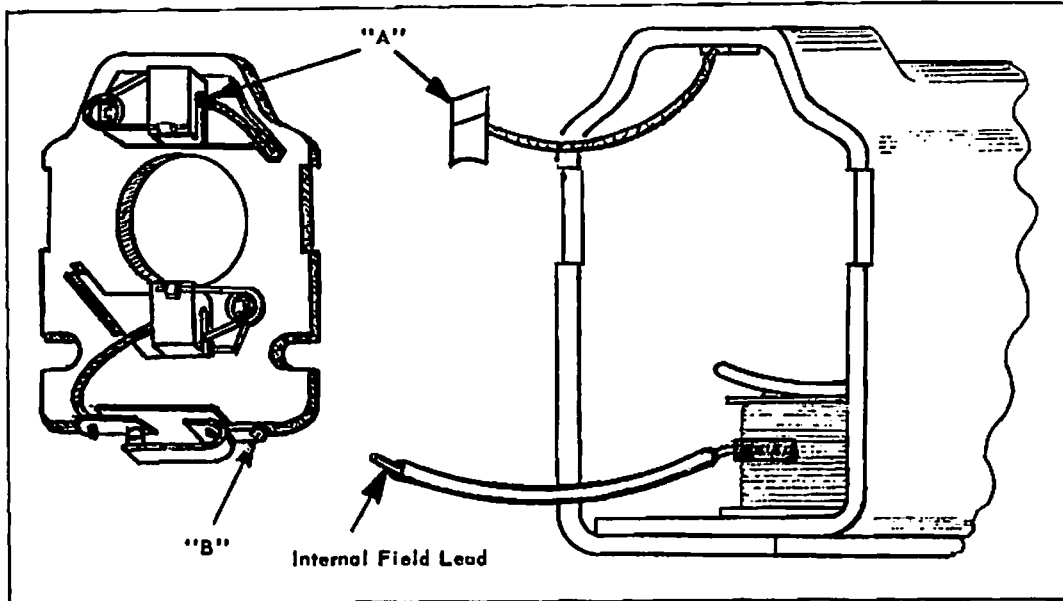

Figure 3-13
7. To remove brush plate and circuit breaker assembly, remove brush identified as "A" in Figure 3-13 and unsolder internal field lead from circuit breaker terminal identified as "B" in Figure 3-13.